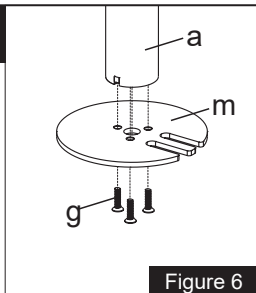

Figure 6
2. Install the Grommet Base Plate(m) to the Pole(a) using 3pcs M5x14 Bolts(g), and tighten using the Allen Key(o), see Figure 6.